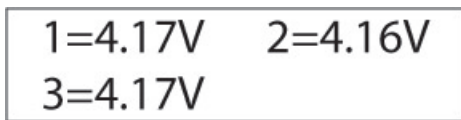

Figure 2
2.The second data screen (*Figure 2*) shows the voltages of the battery's individual cells. You should see the same number of readings on this screen as there are cells wired in series in your battery pack.